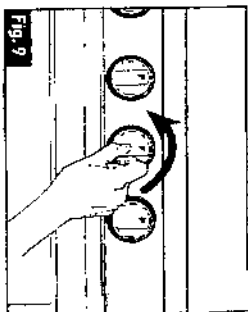

Fig. 9
3. Turn the appropriate burner knob counterclockwise to LIGHT position. (Fig. 9)
3. Rotate the appropriate burner knob counterclockwise to LIGHT position. (Fig. 9)